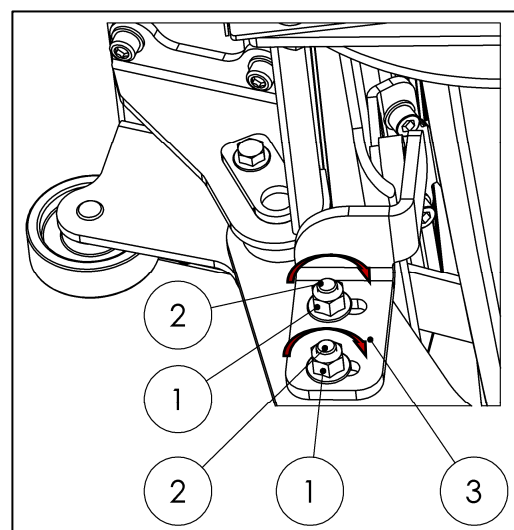

Fig. 80
- Tighten the nuts (1) and bolts (2) on the stopper (3) to a torque of 80 Nm (see Fig. 80).